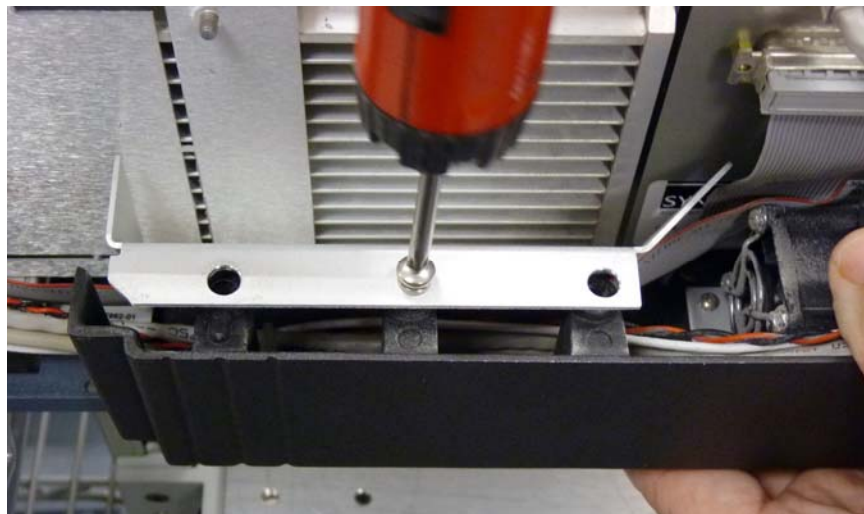

Figure 6 Lower clamshell fastener locations
- 7 Remove the Phillips screws and split washers holding the lower clamshell to the laser chassis (Figure 6). There is one fastener on each side. Be sure to support the lower clamshell to prevent it from falling.